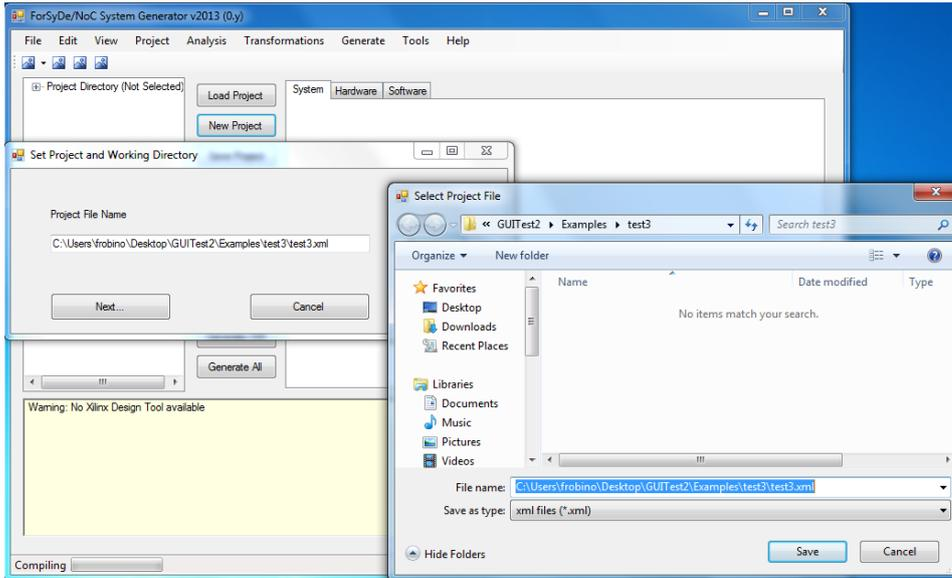

Figure 2.3.: Creating a new project: workspace
2. browse to a folder where you want to save the project files. From now on, we will refer to this folder with the term **workspace**. A typical workspace can be a folder such as `\Ring2x2\Examples\test\`. Before clicking on the Save button, insert the name of a XML file which will be used as project file, to save your project configurations. This step is shown in Figure 2.3. Note: the workspace folder will contain only the XML intermediate format file, not the output files of the NSG!